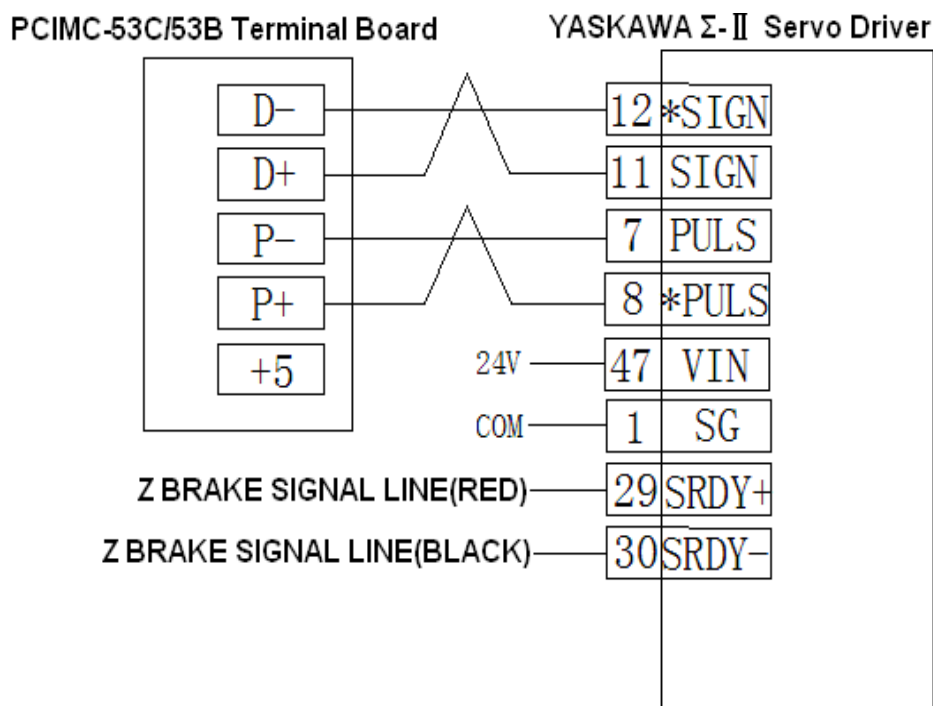

Fig. 4-11 Connection between Terminal Board EX1D and YASKAWA Σ -II Servo Driver
- 1) Wiring Diagram of Connection between Terminal Board EX1D and YASKAWA Σ -II Servo Driver is shown as below in Fig. 4-11.